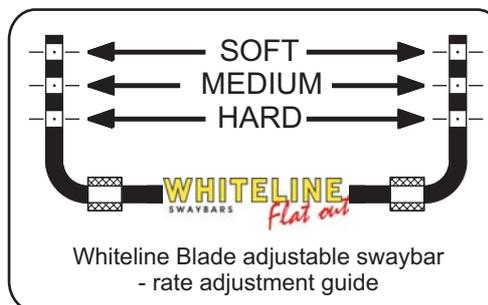

Fig. 1: Sway bar adjustment guide.
7. Connect the links to the outside edge of the swaybar using the remaining 3/8" (50mm long) bolts, washers and nuts, refer to Fig.4. For adjustable swaybars, connect to the desired adjustment position, refer to Fig 1.